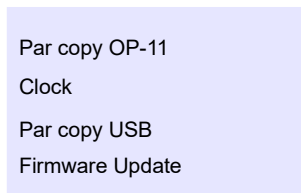

Fig. 1.7. The view of the Service menu
To enter the service menu, press and hold the function button "F" for 5 seconds - (11) in Fig. 1.1. Control panel - general view. The service menu view is shown in the Fig. 1.7.